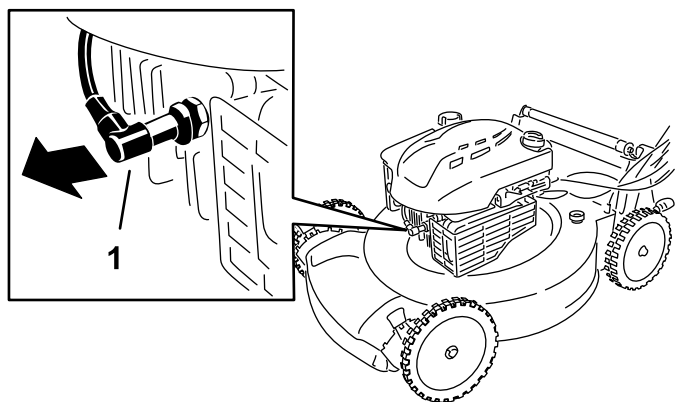

Figure 22
- Disconnect the spark-plug wire from the spark plug (Figure 22).
2. Disconnect the wire from the spark plug (Figure 22).